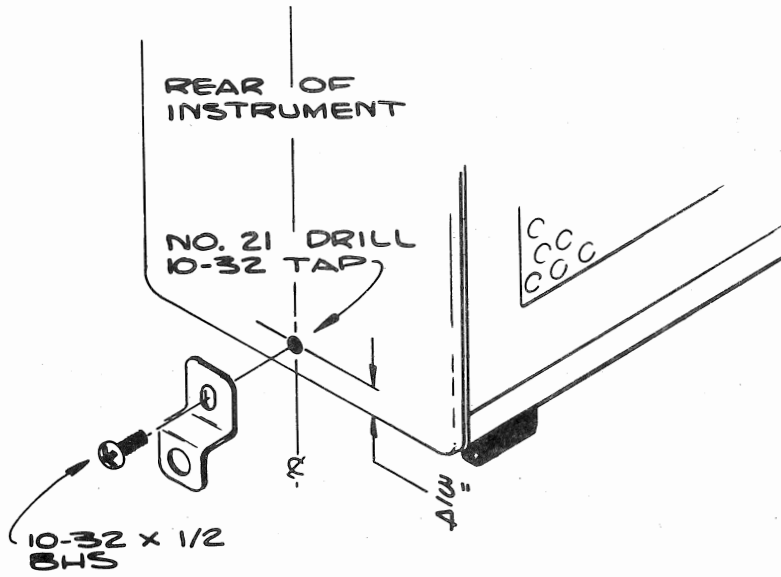

Fig. 3
- ( ) 3. Mount the double angle bracket (from kit) on the rear panel of the instrument, as near to the vertical center line as possible (see Fig. 3).
- ( ) a) Drill and tap a hole in the rear panel as shown in Fig. 3. Use a #21 drill and a 10-32 tap.